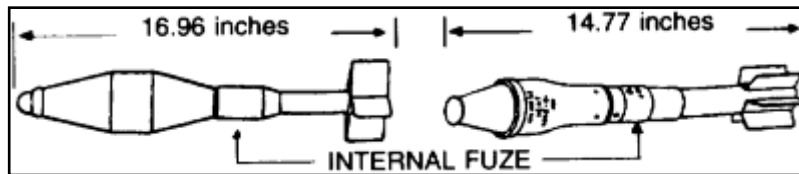

Figure 093-401-5040-8b
(3) Thrown (See figures 093-401-5040-9a and 093-401-5040-9b)